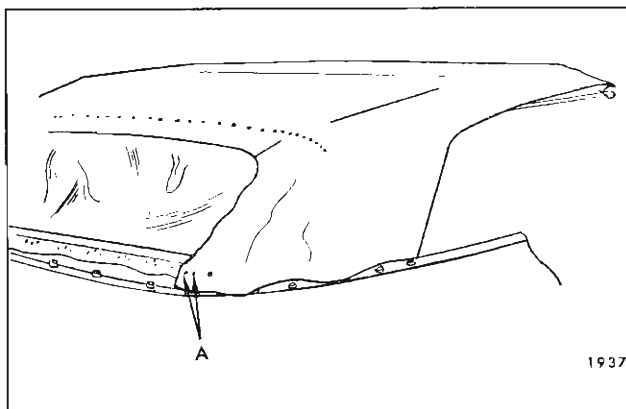

Fig. 5-I-21—Tacking Top Material
31. Install front bow to listing pocket retainer attaching screws. (Fig. 5I27).
33. After cables have been filtered or pulled through hold-down pockets in top material, securely install front and rear cable attaching brackets to side roof front and rear rails (Fig. 5I26).